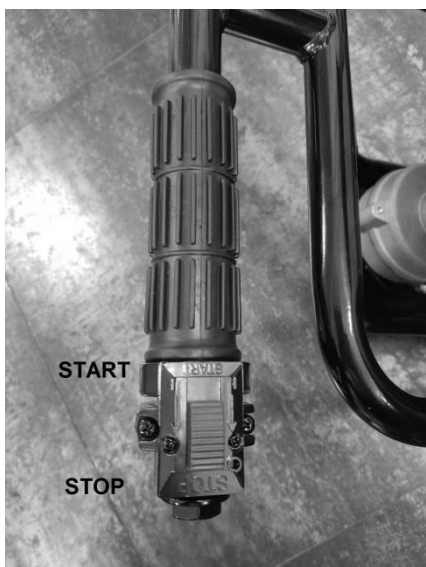

Fig. 5
5.4 Stopping the engine. (Fig.5)